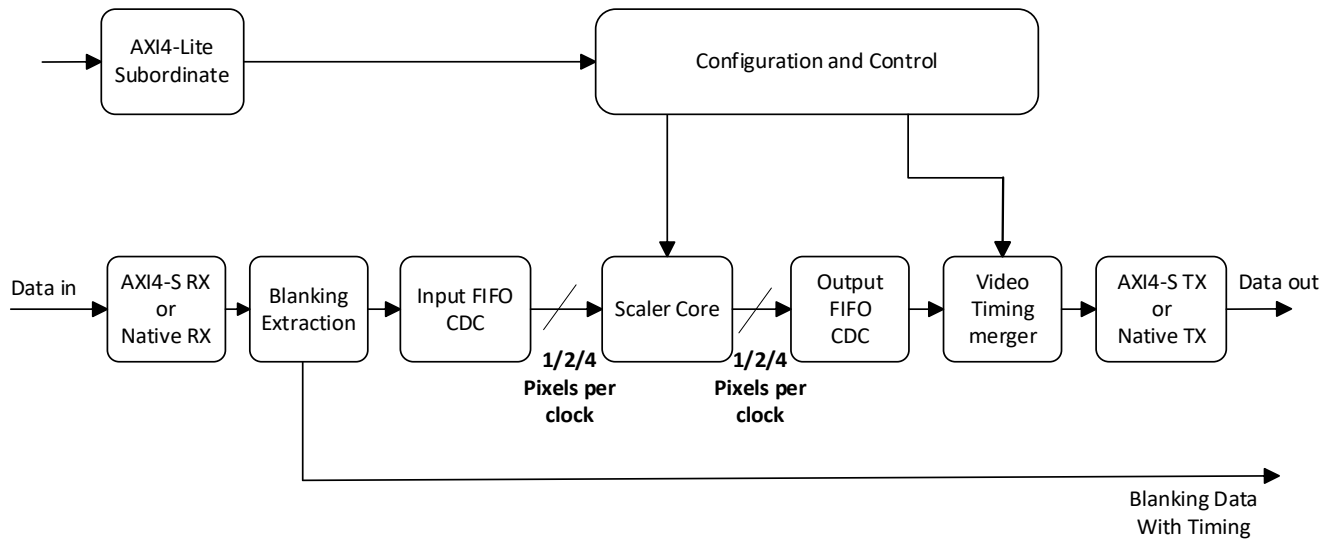

Figure 2.3. Video Scaler IP Core Block Diagram
The data flow diagram for the Video Scaler is shown in Figure 2.3. AXI-Stream Rx and Tx interfaces are attached to the input and output of the scaler core. There are First In First Out (FIFOs) added on the input and output sides to cross the data between clock domains as well as to merge and split data for 2 and 4 pixels per clock support. As Figure 2.3 shows, there is a blanking data extraction module at the input of the IP. The blanking data is extracted and passed out through separate dedicated outputs. The dynamic configuration of the IP and register access are supported through an AXI-Lite interface.
1. Receiver clock domain: all blocks left of the Input FIFO Clock Domain Crossing (CDC) module in Figure 2.3.